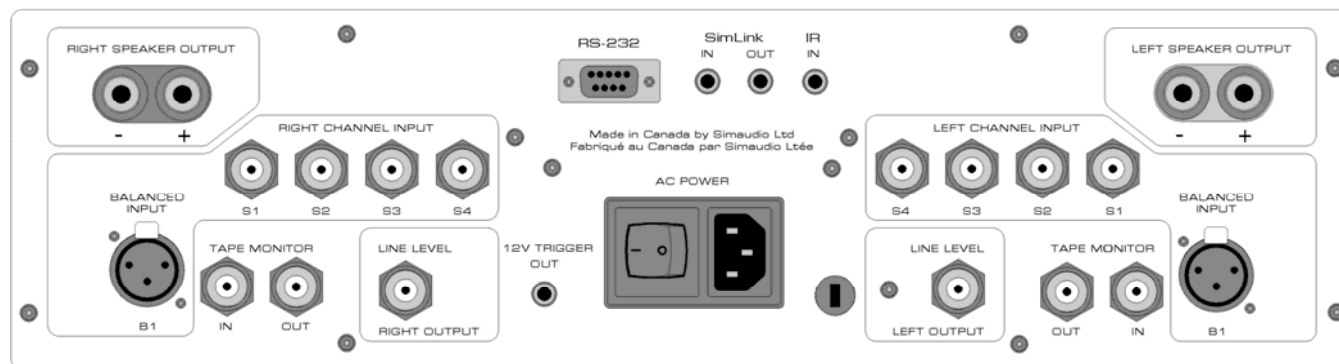

Figure 2: Rear panel of MOON i-7 Integrated Amplifier
The rear panel of the **MOON i-7** dual-mono integrated amplifier will look similar to Figure 2 (above). There are three rows of connectors; the top row contains one pair of heavy duty gold-plated speaker binding posts for each channel to connect to your loudspeakers. This integrated amplifier is equipped with full-function bi-directional RS-232 port control and status for custom integration or automation. This is located in the middle section and uses a DB9 connector. Immediately to the right of the RS-232 port are two (2) "SimLink" connectors labeled "in" and "out" on 1/8" mini jacks. Please refer to the next section entitled SimLink for more details. As well, there's a 1/8" mini-jack input for use with aftermarket infrared remote control receivers.